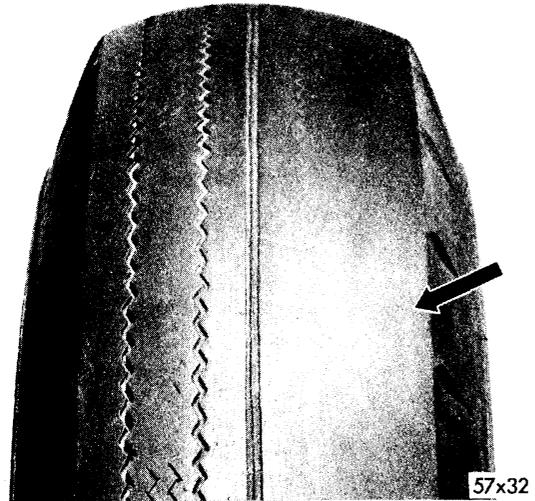

Fig. 17—Camber Wear
c. (Refer to Fig. 17). Excessive positive camber will develop noticeable wear on the outer ribs of tires. Excessive negative camber will result in noticeable wear on the inside ribs.